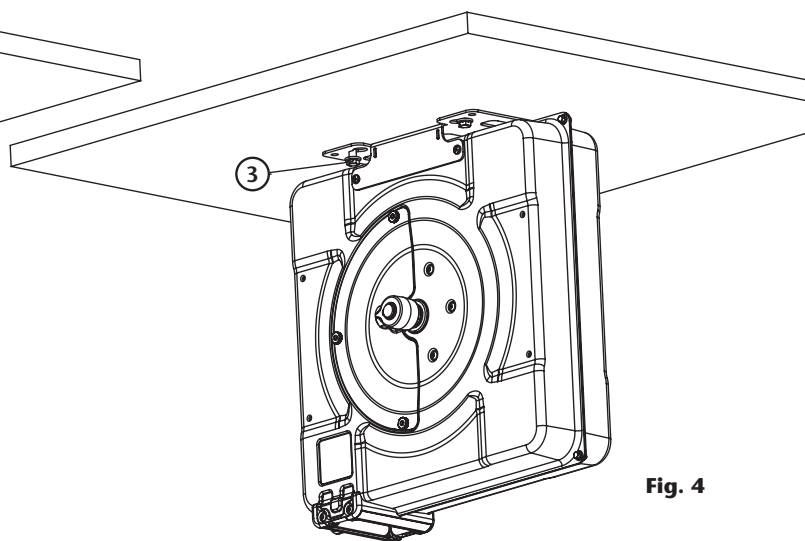

Fig. 4
- Once the reel is suspended, always holding it securely, proceed to introduce the remaining two bolts (3) (fig. 4), which should be no longer than 10mm to be able to screw them easily.